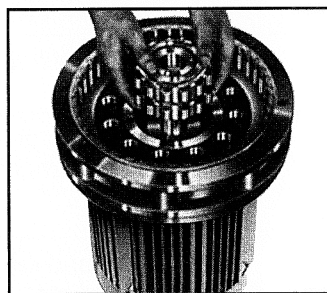

Fig. B-21
7. Using both hands, lift out the top cycloid disc (2-04) on the slow speed side (Fig. B-21).